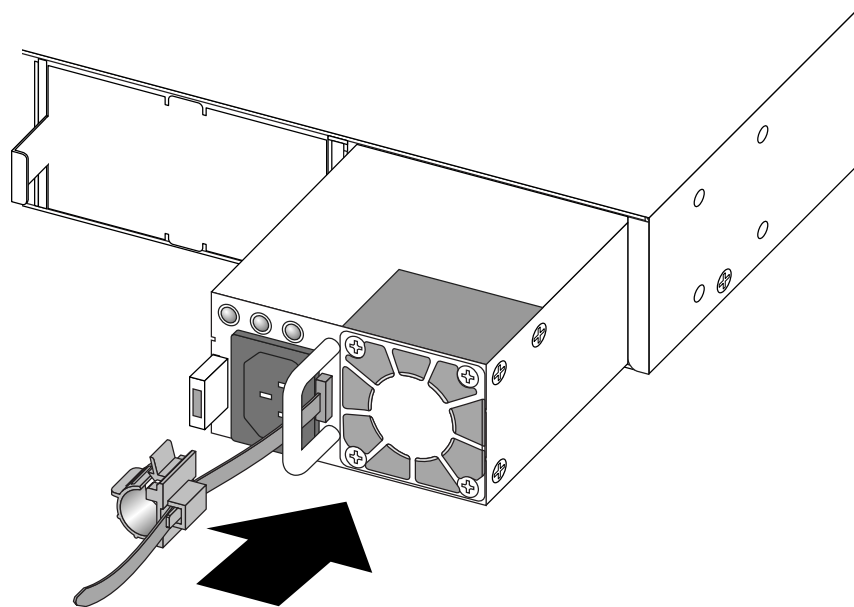

Figure 316: Installing a 750 W AC Power Supply in an EPS-C2 Chassis
3. Carefully slide the power supply all the way into the slot in the EPS-C2 chassis (see Figure 316).